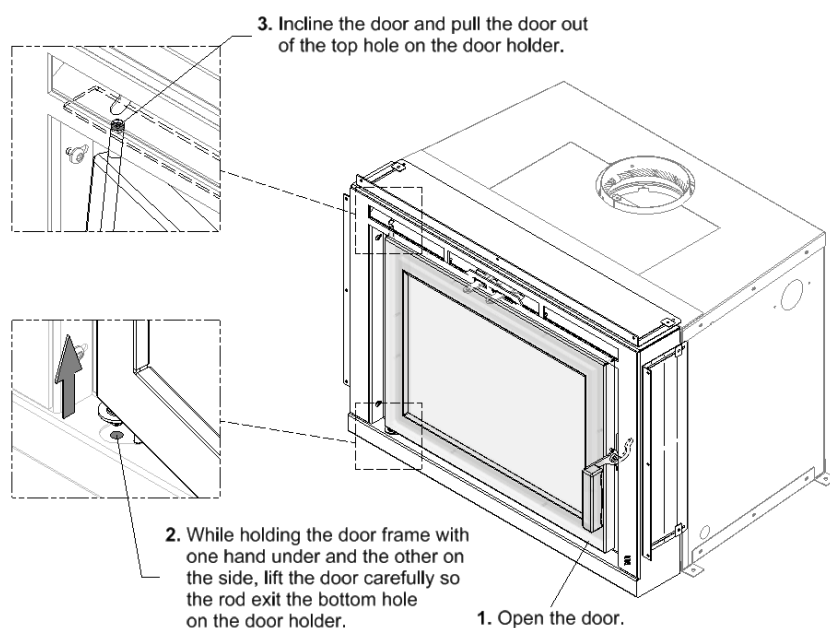

Figure 3-5: FLAIR Door Removal
- c) Remove the door as shown in Figure 3-5. Place the door face down on a soft surface aside and leave it until the installation is finished.